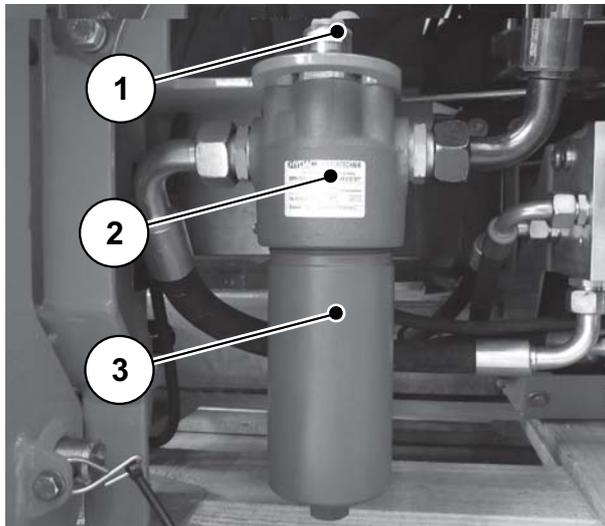

Figure 9.38: Hydraulic Pressure Filter
In order to ensure long, error-free operation, we recommend you use a hydraulic pressure filter (Figure 9.38). If the hydraulic pressure filter becomes contaminated, you will need to replace the filter cartridge with a new filter cartridge.
To detect contamination, the pressure filter (Figure 9.38) has a contamination indicator (Figure 9.38 position 1).
1. Undo the filter top (Figure 9.38 position 3) with a SW24 spanner
4. Clean the filter top and filter head (Figure 9.38 position 2) in the region of the thread and the sealing surface and examine for mechanical damage.
6. Screw the filter top (Figure 9.38 position 3) with the SW24 spanner as far as the stop and undo the filter top one quarter of a revolution.